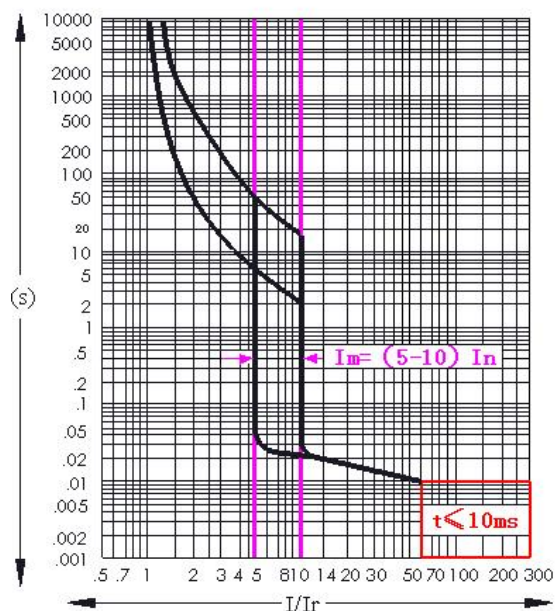

Fig 2
6.1 Tripping characteristics curve under normal environment (ambient air temperature: 40°C), Fig2: